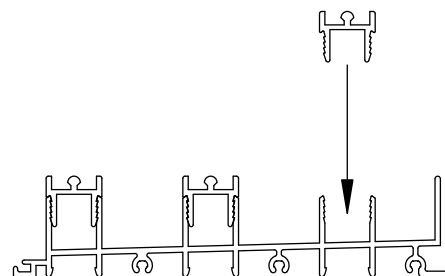

Figure 6
- 10) After installation screws are sealed, install the sill inserts. There is one insert for each track. (See Figure 6)